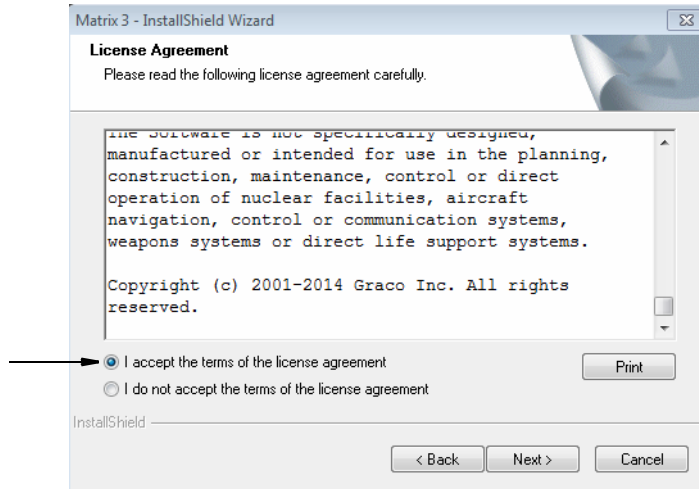

FIG. 16
- Review the End User License Agreement (FIG. 16). If acceptable, select "I accept the terms of the license agreement". After accepting the terms of the license agreement, the NEXT button becomes active. Click the NEXT button.